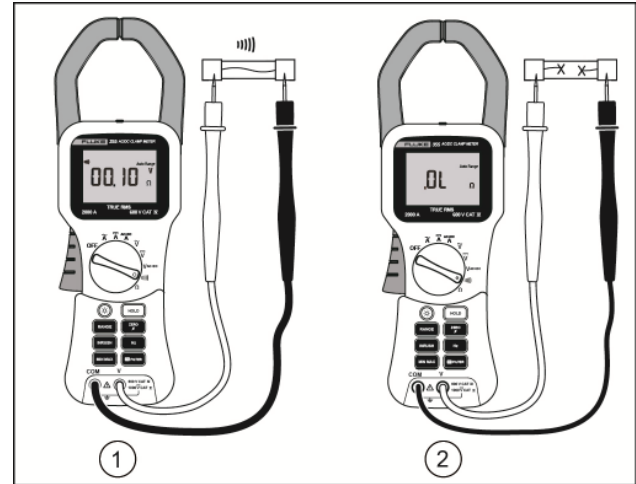

Figure 7. Measuring Continuity
4. If the resistance is  $< 30 \Omega$ , the beeper sounds continuously, designating a short circuit (①). If the display reads **OL**, the circuit is open (②) or above  $399.9 \Omega$ . See Figure 7.